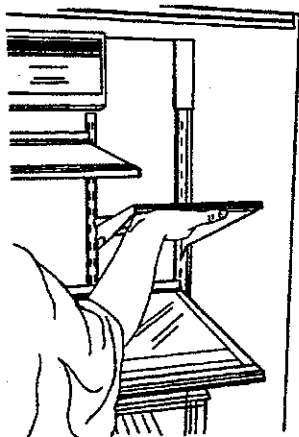

Figure 53
- b. Tilt up on front edge of shelf and pull out. See Figure 53.